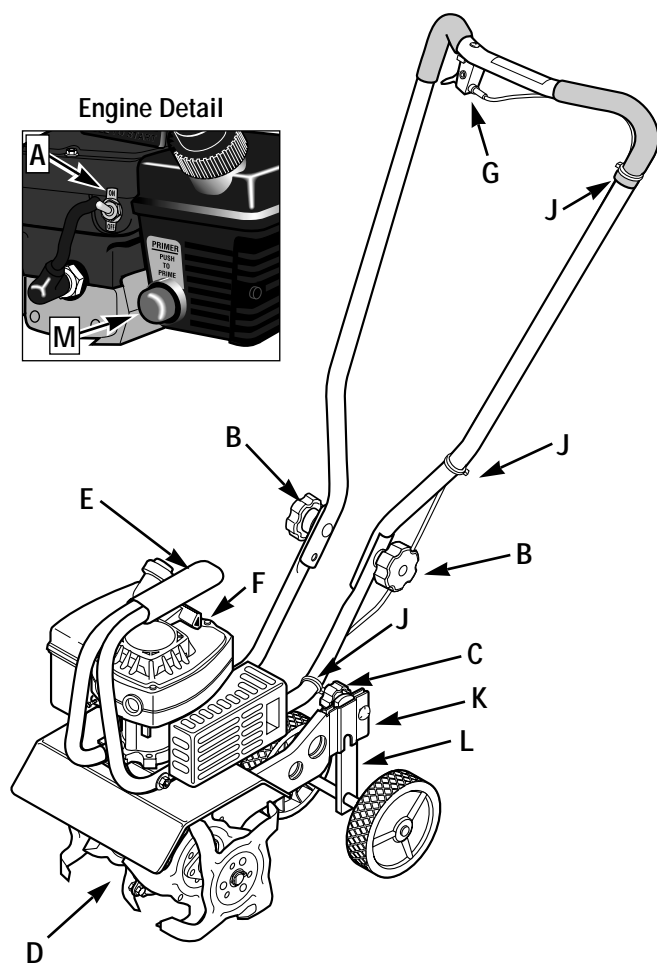

Figure 5: Features and controls.
Engine On-Off Switch (A, Fig. 5-Engine Detail)
Handlebar Height Adjustment (B, Fig. 5)
Tilling Depth Adjustment Knob (C, Fig. 5)
Adjustable Tine Positions (D, Fig. 5)
Carrying Handle (E, Fig. 5)
Engine Recoil Start Rope (F, Fig. 5)
Engine Throttle Lever (G, Fig. 5)
Fuel Primer Bulb (M, Fig. 5-Engine Detail)
- Check that all wires and cables are properly and securely connected. It is very important that the three plastic cable ties (J, Figure 5) be positioned as shown. The control cables must not be kinked or jammed in the handlebar.